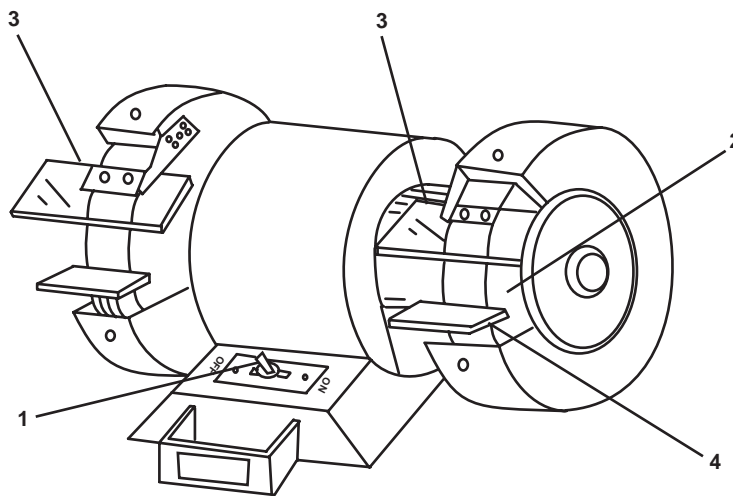

Figure 5. Bench Grinder
1. Check that the ON-OFF switch (figure 5, item 1) is in the OFF position and that the grinder wheel (figure 5, item 2) rotates freely.
2. Check that the eye shield (figure 5, item 3) is in place.
3. Check that the tool rest (figure 5, item 4) has 1/16-inch clearance from the grinder wheel (figure 5, item 2).
4. Set the ON-OFF switch (figure 5, item 1) to ON.
5. Hold the piece being ground firmly against the grinder wheel (figure 5, item 2) with a light but steady pressure.
6. Keep the tool rest (figure 5, item 4) adjusted to within 1/16-inch of the grinder wheel (figure 5, item 2).
7. When finished, set the ON-OFF switch (figure 5, item 1) to OFF.